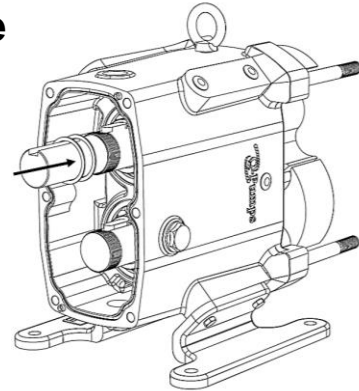

Figure 57: Gear Shim Installation
9) If the clearances are incorrect, they can be adjusted by shimming one gear. Remove the gear lock nuts and gears, and add gear shims to one shaft (Figure 57). The gear being shimmed is determined after checking the clearances, some trial and error may be necessary. Once the shims are in place reassemble the gears and ensure the correct clearances are met. Remove the rotors from the shafts.